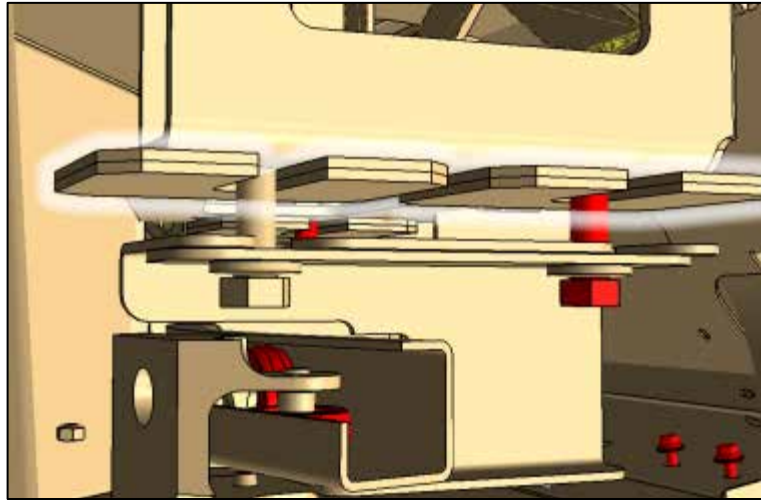

Figure 62
94. Insert the required number of shims for all three screws on the front and rear rail support. (Figure 62)